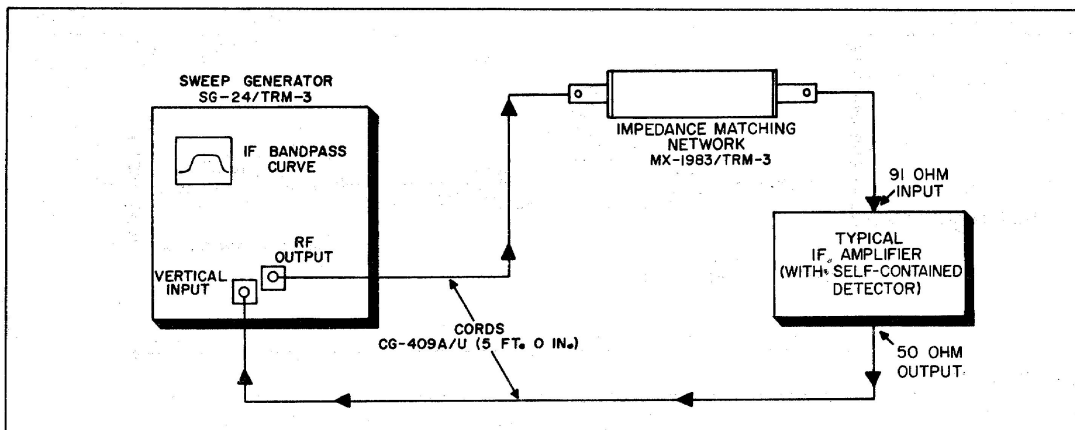

Figure 2-4. Typical Application for Impedance Matching Network MX-1983/TRM-3 and Cords CG-409A/U
c. Figure 2-4 illustrates the connections required for the alignment of a typical i-f amplifier employing a self-contained detector at its output, but having a 91-ohm input impedance. For this application, use one of the CG-409A/U cords to apply the test signal from the sweep generator to the input of the Impedance Matching Network MX-1983/TRM-3. Connect the impedance matching network to the input of the i-f amplifier. Use the second CG-409A/U cord to apply the detected output of the i-f amplifier to the VERTICAL INPUT connector of the sweep generator.